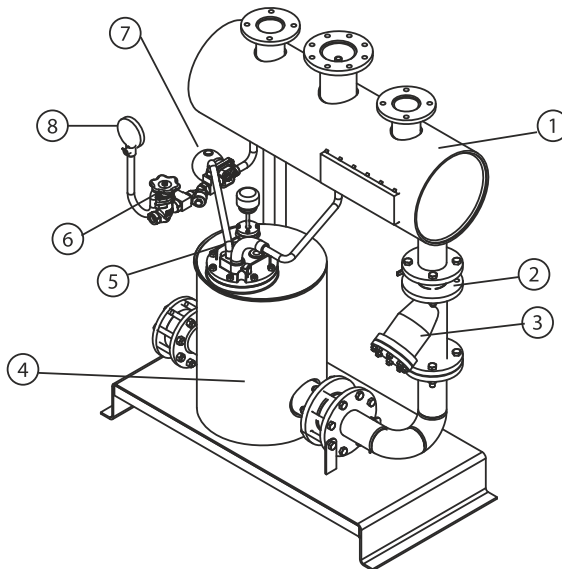

Figure 9 : Flushing procedure of Pressure Powered Pump Package Unit
6.2 Flushing Procedure in the absence of a Forbes Marshall Flash Vessel (Refer Figure 9)